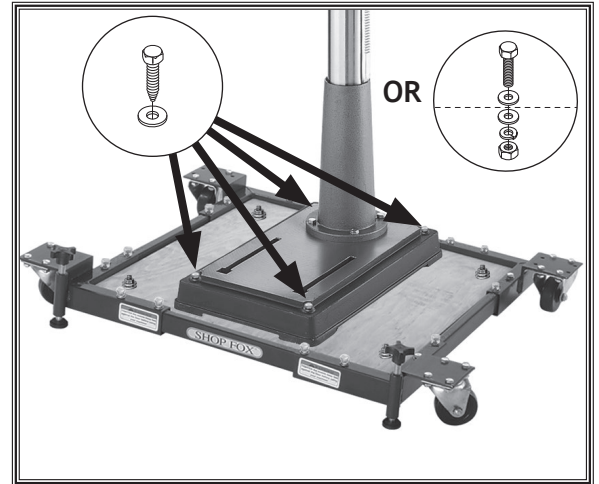

Figure 30. Example of drill press mounted on mobile base, using a base plate for support.
If the footprint of the machine is too small for the mobile base or the machine doors or fixtures do not clear the side rails, you can mount it to a base plate, as shown in **Figure 30**.
9. Mount the machine to the base plate with lag bolts and flat washers (see **Figure 30**); or drill holes through the base plate and secure the machine with through bolts, flat washers, and hex nuts.